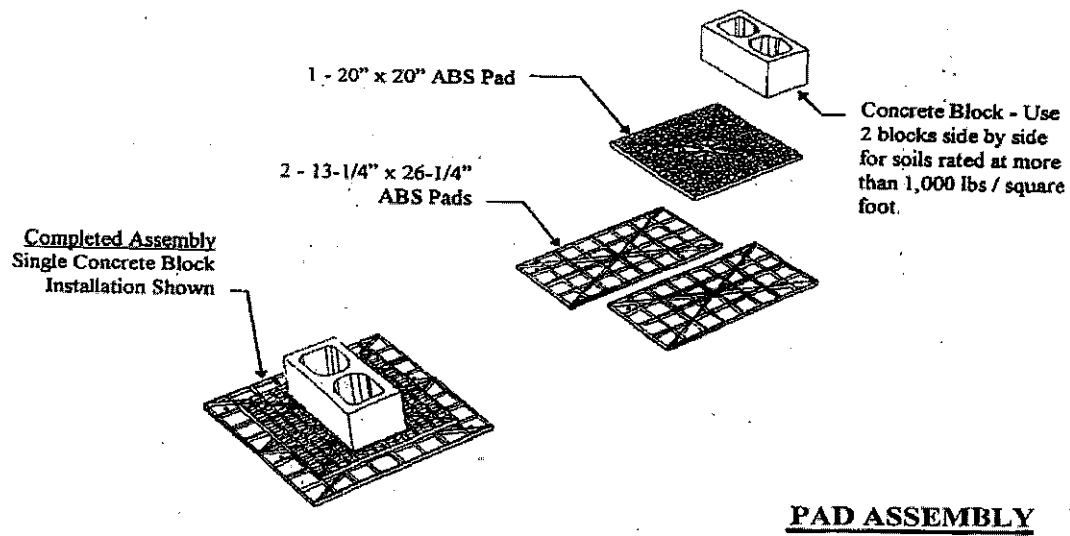

Figure 6. ABS pad assembly installation instructions for a 26"x 26" configuration
7. The maximum deflection in a single pad is 5/8 of an inch measured from the highest point to the lowest point of the top face. (Please review Table V and Figures 6 and 7).